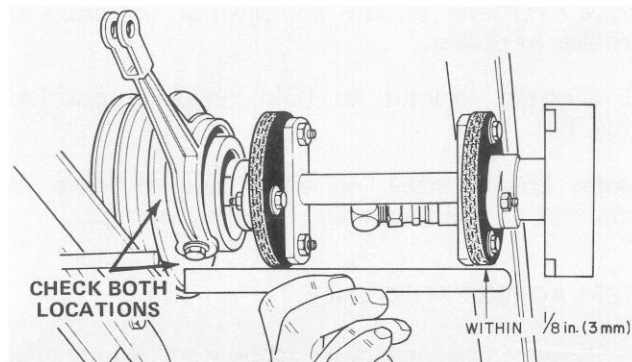

Figure 60
1. Check alignment of drive couplings, place square end of ruler or scale against face of drive pulley and bottom of coupling retainer to check vertical alignment (Fig. 60). Also, place ruler or scale against face of drive pulley and side of coupling to check horizontal alignment (Fig. 60). If there is more than 1/8 inch (3 mm) between ruler or scale and opposite coupling retainer, or the scale is more than 1/8 inch (3 mm) higher than bottom of coupling during vertical alignment check or scale does not align within 1/8 inch (3 mm) of side of coupling, an adjustment is required. To correct for misaligned drive coupling, proceed to step 2.